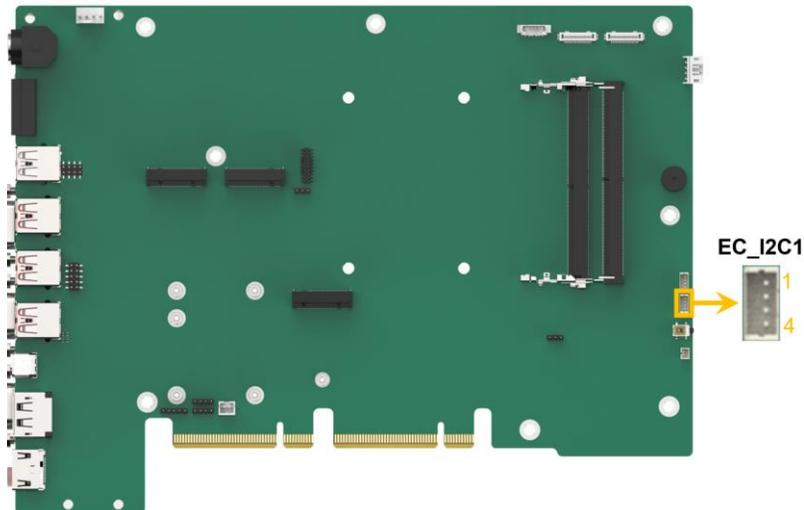

Figure 4-13: I²C Connector Location
- CN Location:** See Figure 4-13